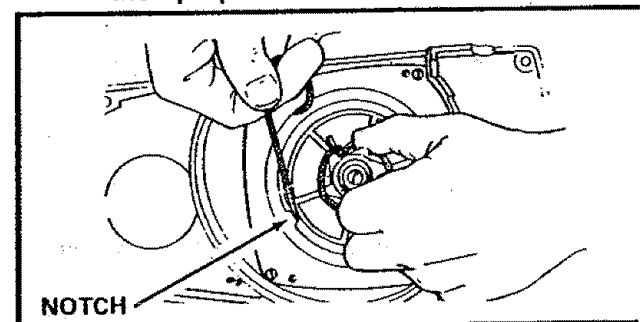

Figure 51
16. Pull out 12 inches of rope and catch the rope in the notch in the pulley. Figure 51.